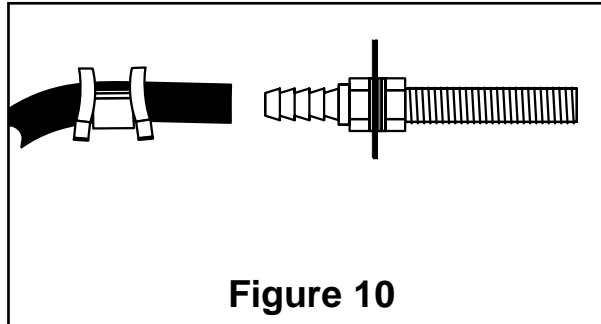

Figure 10
- K. Slide air line clamp over the air line. Push air line onto fitting covering all barbs, with pliers slide the air line clamp forward until it fully covers the barbed section (Figure 10).
- I. Slide air line clamp onto the air line and push the air line over the fitting, covering all the barbs. With pliers slide the air line clamp forward until it fully covers the barbed section (Figure 10).